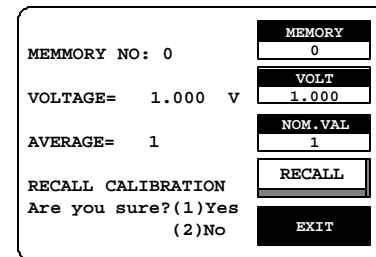

Figure 7-4
- Press compound Key 1 to select the "Yes" to start recall calibration. (Figure 7-4)
- Press compound Key 2 to select the "No" to stop recall calibration. (Figure 7-4)